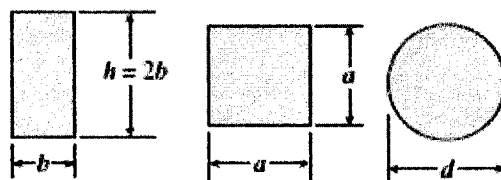

Fig. 2 Three beams of the same length
3. Determine the ratios of the weights of three beams that have the same length, are made of the same material, are subjected to the same maximum bending moment, and have the same maximum bending stress if their cross sections are (1) a rectangle with height equal to twice the width, (2) a square, and (3) a circle. (Fig.2) (15%)